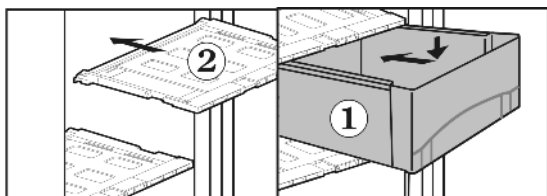

Fig. 14
- ▶ To insert drawer cover *Fig. 14 (2)*: insert the bars of the drawer cover into the rear holders from below and snap into the holder at the front.
- ▶ Attach the drawers *Fig. 14 (1)* to the slides and push all the way in until the drawer audibly engages into place.